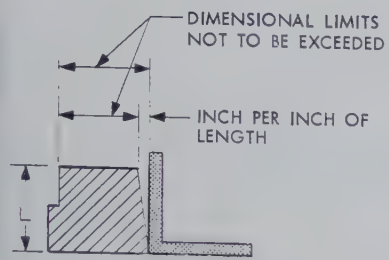

FIG. 19
Squareness: Squareness of machined surfaces, other than turned surfaces, shall be .002 per inch of length (L) starting with a minimum of .002. See Fig. 19.